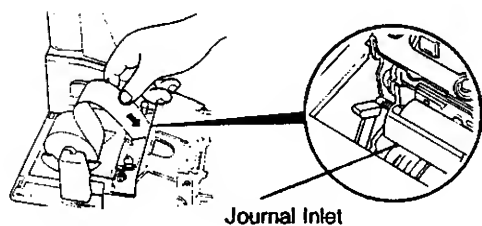

Fig. 9
5. Insert the paper end into the Journal Inlet, feed the paper in while pressing down the [JF] key. (Fig. 9)